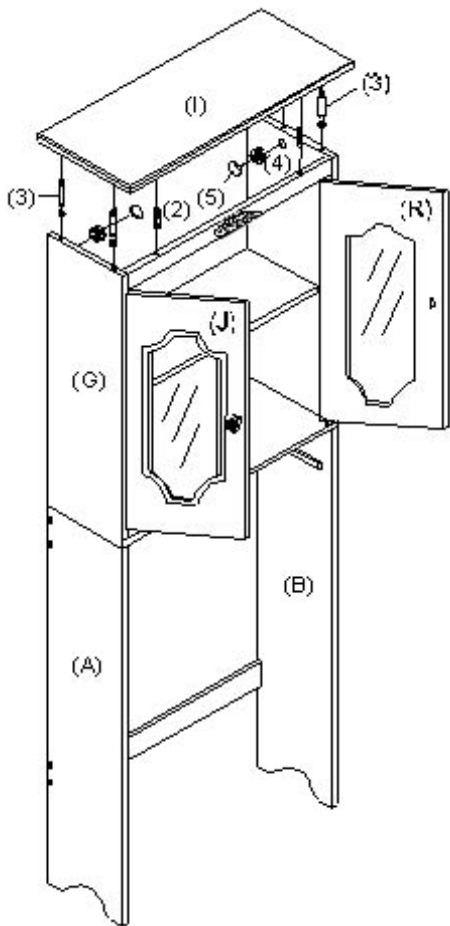

FIGURE 5
8. INSERT WOOD DOWEL (2) AND CAM-BOLTS (3) INTO PREDRILLED HOLES ON UNDERSIDE OF TOP PANEL (I) AND FIT INTO CORRESPONDING HOLES ON TOP EDGES OF FRONT CROSS BRACE (E) AND LEFT AND RIGHT UPPER SIDE PANELS (G, D). INSERT CAM-LOCKS (4) INTO BIG HOLES ON INSIDE OF LEFT AND RIGHT UPPER SIDE PANELS (G, D) WITH SLOT FOR SCREWDRIVER FACING OUTWARD. ROTATE CAM-LOCKS (4) CLOCKWISE TO SECURE CAM-BOLTS (3). PUSH COVERS (5) INTO CAM-LOCKS (4). (AS SHOWN IN FIGURE 5).